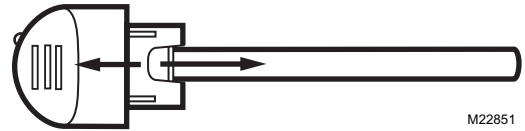

Fig. 15. Disconnect lamp glass from SnapLamp™ handle.
5. If you have a SnapLamp™ handle, follow steps 5 and 6; otherwise, proceed to step 7. Grasp the SnapLamp™ handle in one hand and the lamp glass in the other and pull straight apart. See Fig. 15.